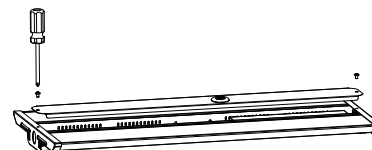

Figure 9
- Step1.Open the face cover with screw driver; (Figure 9)